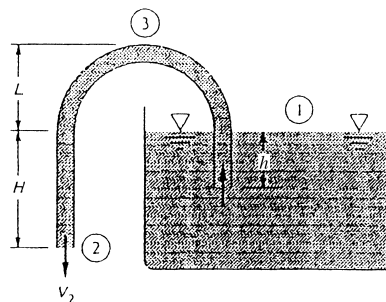

Fig. P3.169
**3.169** Once it has been started by sufficient suction, the *siphon* in Fig. P3.169 will run continuously as long as reservoir fluid is available. Using Bernoulli's equation with no losses, show (a) that the exit velocity  $V_2$  depends only upon gravity and the distance  $H$  and (b) that the lowest (vacuum) pressure occurs at point 3 and depends on the distance  $L + H$ .